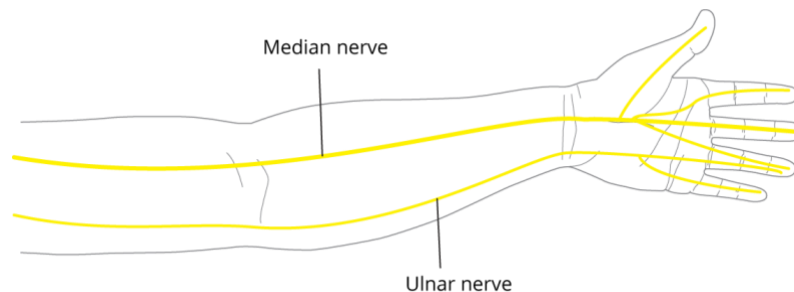

Figure 8. Position of the Median and Ulnar Nerves. Image courtesy of ADInstruments ©
- **Note:** Some volunteers may fail to show any thumb twitch response stimulating the median nerve. In some people, the abductor pollicis brevis muscle is innervated by the ulnar nerve instead of the median nerve. This is an example of anatomical variation. Try moving the Stimulating Bar Electrode to the ulnar nerve (see Figure 8).